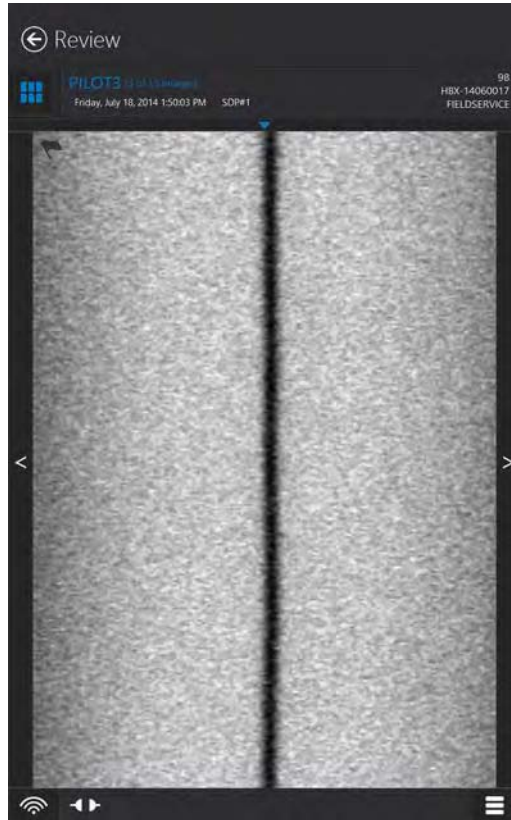

Figure 11-10: Recalibration screen image after completion
13. To verify the calibration, perform a scan while the scanner remains in the dock. The calibration result is viewed in the **Scan Monitor Mode Screen** after the scan completes. The Calibration Dock has an embedded target (visible in Figure 11-9) that should be imaged as a single, vertical dark line, centered (left-right) in the screen (Figure 11-10).